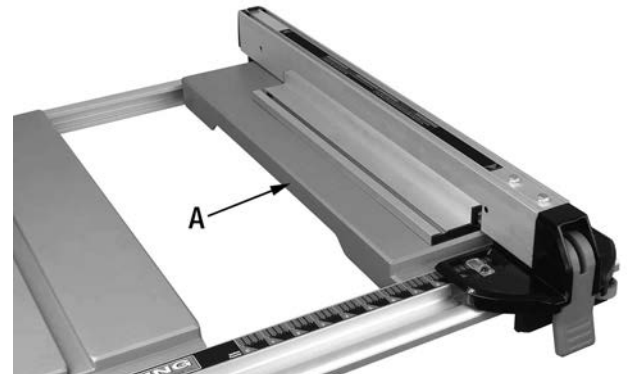
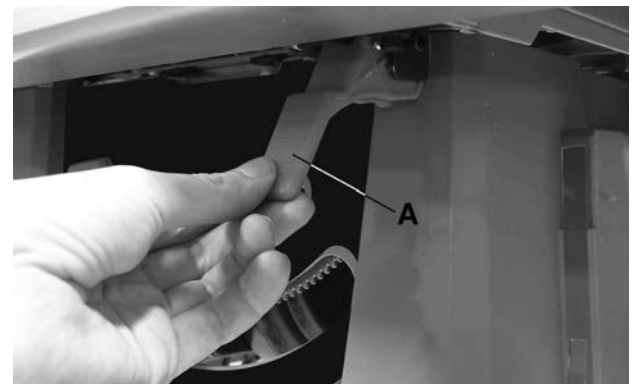

FIGURE 18
FIGURE 19
2. Unlock the extension table (A) Fig.18 by raising the extension lock lever (A) Fig.19, slide the extension to the desired width. Use the scale on the front rail when a specific width is desired.
3. Once the extension is in the desired position, lower the lock lever (A) to secure the extension in place. The rip fence can now be installed as shown in Fig.18.